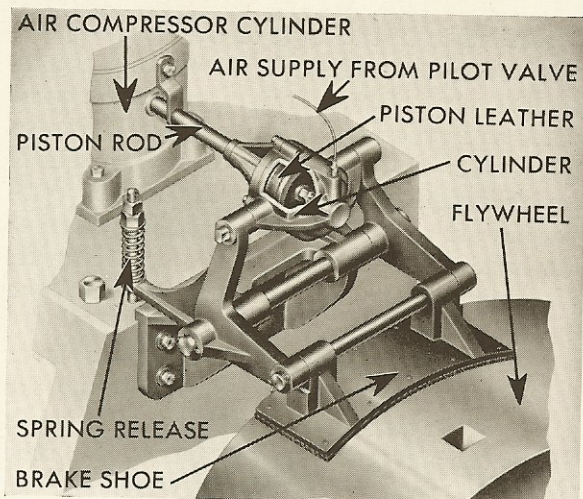

FIGURE 18-5
11. FLYWHEEL BRAKE: The various brake parts are shown in Figure 18-5. The leather should be replaced if it becomes hard or scored. All pins and rockers should be kept well lubricated. If oil, grease, or water is allowed to collect on the flywheel rim, the efficiency of the brake will be ruined and slow maneuvering will result.